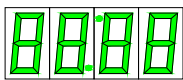

Figure 2 - components
2.2. Primary components (Figure 2):